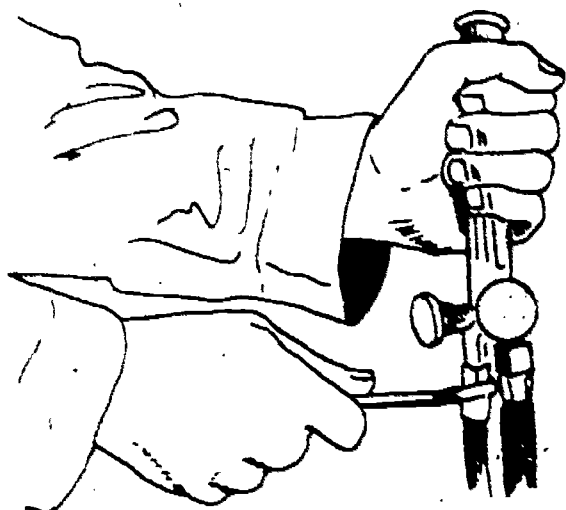

Figure 12. Attaching Handle
8. Attach the torch handle to the hoses (see figure 12).